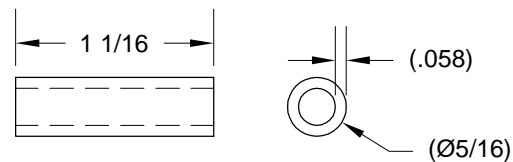

FIGURE 1: MAKING THE BATTERY SPACER
Step 1: Make two F-1201D Battery Spacer from .058X5/16 6061-T6 tube per the dimensions in Figure 1.